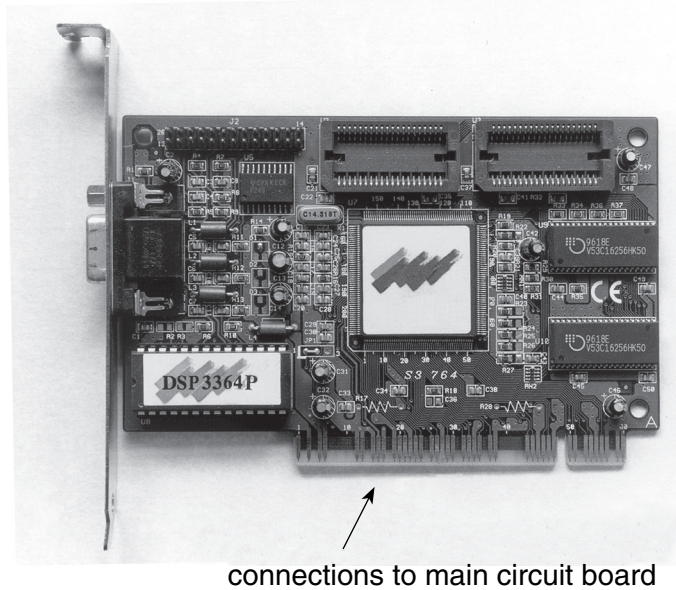

Fig. 14
- (c) Electronic systems are often produced using small 'plug together' boards as shown in Fig. 14.